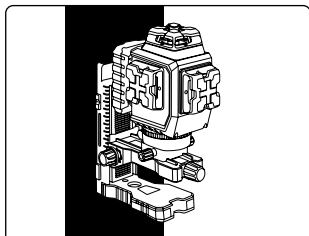

FIGURE 9
- Attach the magnets side of the multi-purpose mount onto a suitable surface ensuring that both the surface and magnets are clean and free of debris for a strong magnetic hold (Fig.9).